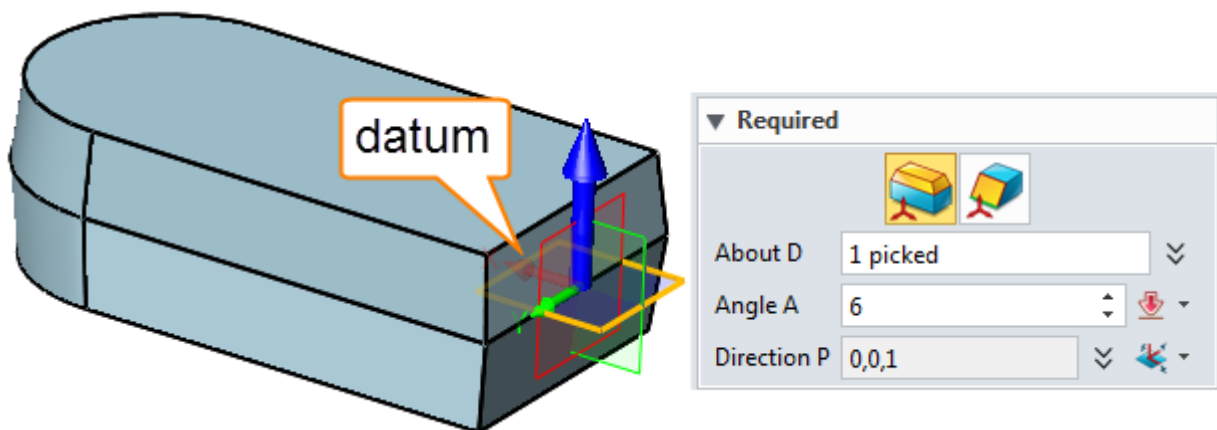

Figure47 Draft-Datum
STEP 01 Select one datum to draft. Only one datum can be selected, see Figure47.